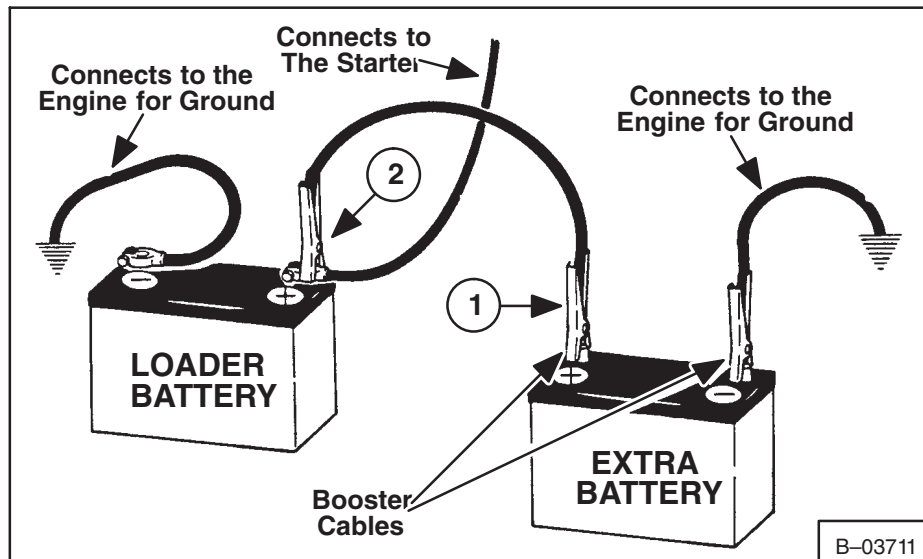

Fig. 1-24 Connecting the Extra Battery
5. Connect the end of the first cable to the positive terminal (+) of the booster (Fig. 1-24, Item 1). Connect the other end of the same cable to the positive terminal (+) of the loader battery (Fig. 1-24, Item 2).
6. Connect the end of the second cable to the negative terminal (-) of the booster battery (Fig. 1-24, Item 3). Connect the other end of the second cable to the engine (Fig. 1-24, Item 4). DO NOT connect the cable directly to the negative terminal (-) of the loader battery. Connecting the cable directly to the battery can cause a spark and destroy the battery and cause personal injury.
9. After the engine has started, remove the cable connected to the engine (Fig. 1-24, Item 4).
10. Then remove the cable from the loader battery post positive terminal (Fig. 1-24, Item 2).